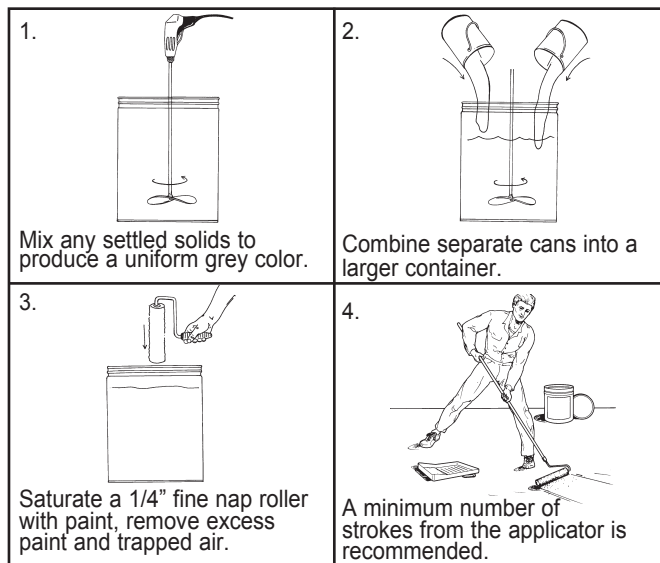

Figure 3. Paint application with roller.
1. Mix paint thoroughly before use (See Figure 3) using a 500-1500 RPM variable speed drill and paint mixing attachment or a paint mixer.